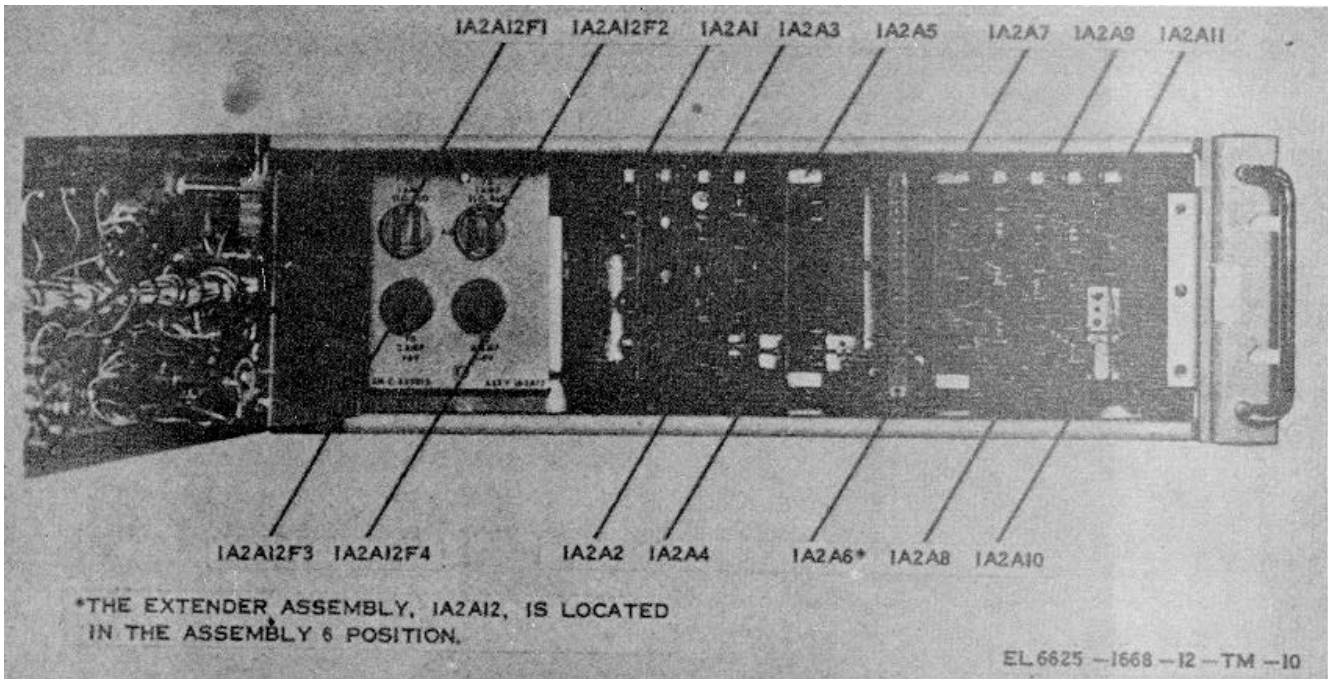

Figure 2-4. SG-860/GGM-15(V) assembly, card and fuse location.
- (2) Operate each front panel control to assure freedom of movement.
- (3) Check front panel locking screws and hinges for signs of damage.
- (4) Open and lock front panel, and check the position of each plug-in assembly. Refer to paragraph 2-3 and figures 2-4, 2-5 and 2-6 to check each plug-in assembly for proper location.
- (5) Check each plug-in assembly for secure engagement with the appropriate connector.
b. The plug-in assemblies for each major component and their reference designations are listed in table 2-1. Assembly locations are illustrated in figures 2-4, 2-5, and 2-6.
(1) For a bridging input, polar or neutral, connect the input ground to the BRIDGING input jack sleeve and the input signal to the BRIDGING input jack tip. Set the INPUT switch to Hz and the MARK POLARITY switch to + or-as determined by the mark polarity of the input signal.
(2) For series inputs connect the data signal to the SERIES input jack tip and data return to the sleeve. Set the INPUT switch to the position that indicates the current level and type of input signal. *For example:* 20N represents a 20-ma neutral loop.
(3) An external timing source at 200 times the desired baud rate may be used when the BAUD RATE switch is set to EXT. and the external source at  $\pm 6$  volts is connected to 2A3J1 (BNC type connector, ground is shield).
a. All fuses are installed at the factory. The fuses in each major component, their value, and reference designation are listed below. Figures 2-4, 2-5 and 2-6 will aid in locating most fuses. Other fuses are located on the plug-in assemblies (check reference designation for assembly number).